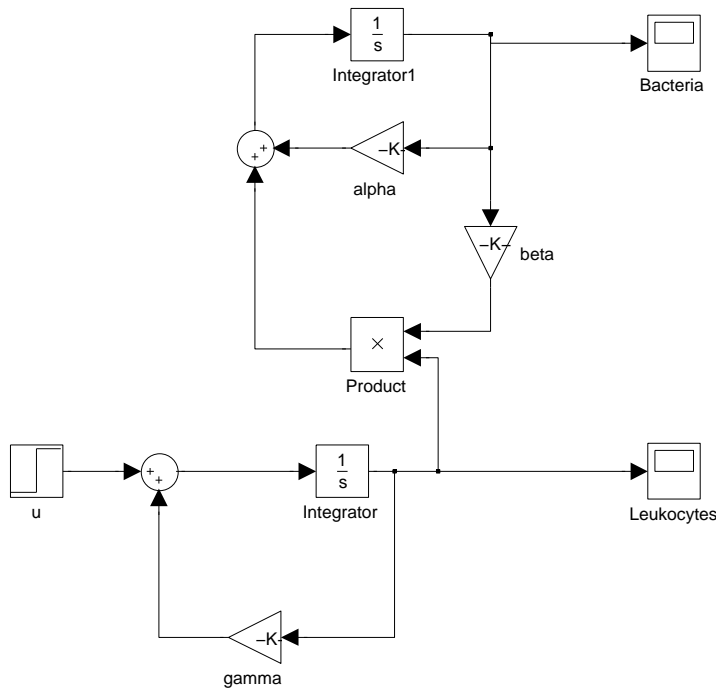

Figure 3.1 Simulink model for the Predator-Prey system
3.6 The Simulink model can be seen in Fig. 3.1.